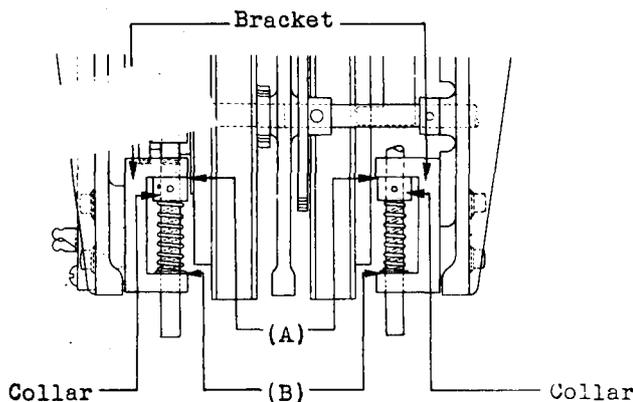

Fig. 4 - Designation of Parts and Lubricating Points
- FIG.4(A) Between each dial manual reset shaft collar and associated bracket.
- FIG.4(B) Between each dial manual reset shaft washer and associated bracket.